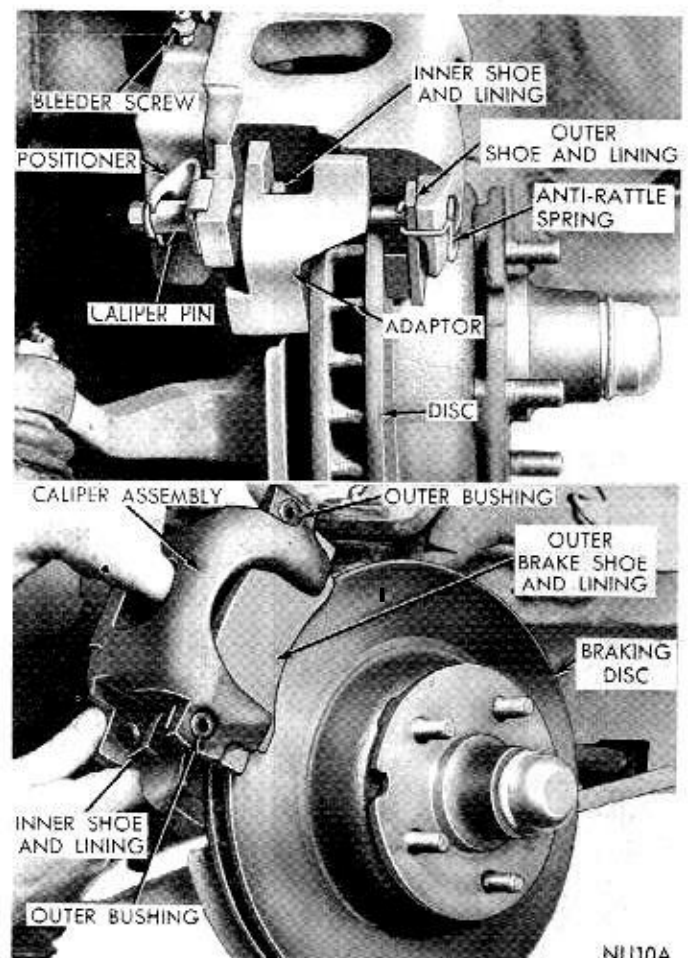

Fig. 7—Removing or Installing Caliper
- (1) Raise vehicle on a hoist or jackstands.
- (2) Remove front wheel covers, and wheel and tire assemblies.
- (3) Remove caliper guide pins, positioners that attach caliper to adaptor and anti-rattle spring.
- (4) Remove caliper from disc by slowly sliding caliper assembly out and away from braking disc (Fig. 7). Support caliper firmly so as not to damage flexible brake hose.